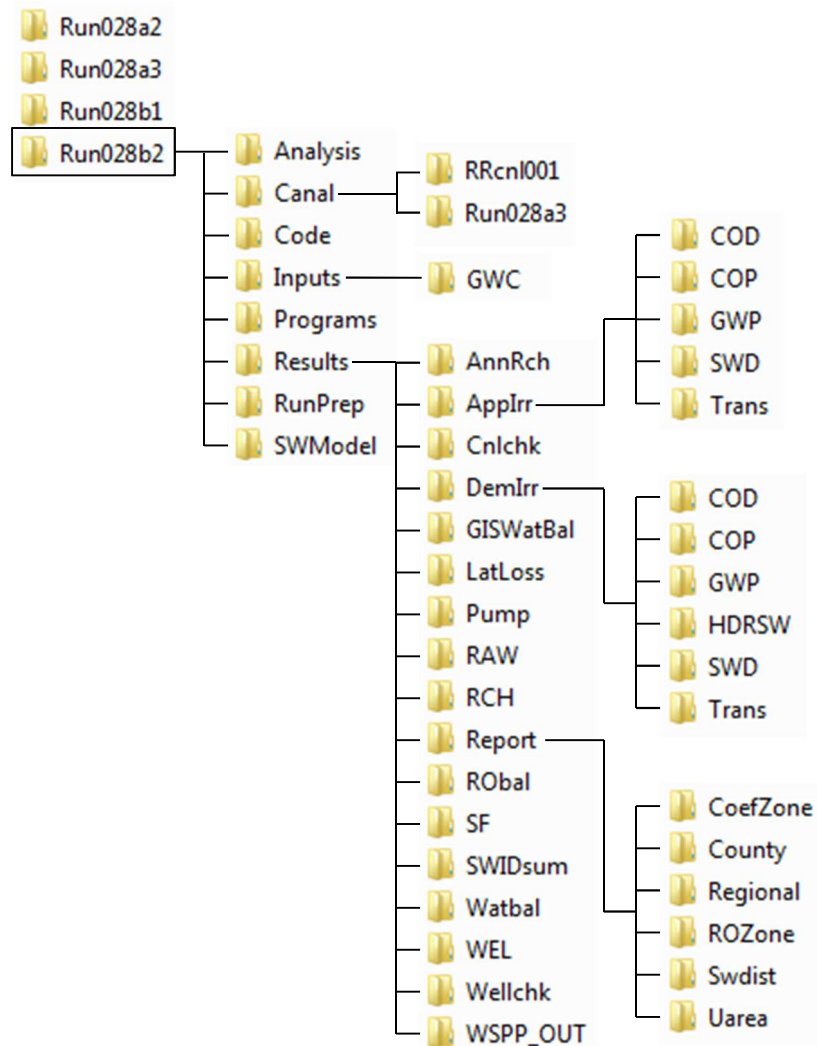

Figure 1. Watershed Model Run folder structure
Step 1. Create the proper folder structure for a model run (Figure 1)
*As illustrated in **Figure 1**, there were four iterations created for this model run. The highlighted model run, **Run028b2**, represents the 'Run' project. There have been 28 versions of the watershed model for this project. This was the second attempt of a supply run through the integrated model due to changes in the other models.*
The watershed model operates on monthly time but creates output files on an annual basis. Rather than populate the results folder with numerous individual files, the files are organized in sub-folders. The folder structure within the results folder needs to match Figure 1. Failure to include a sub-folder or changing the name¹ will cause one or more programs to fail.